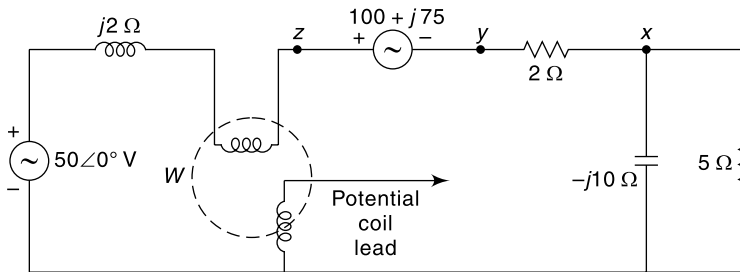

Fig. 14.77
14.85 What is reading shown by the wattmeter in the circuit of Fig. 14.77? Identify the source s generating this power. The positive terminal of the potential coil of the wattmeter is connected separately to (i) x , (ii) y and (iii) z . Check your result in each case.